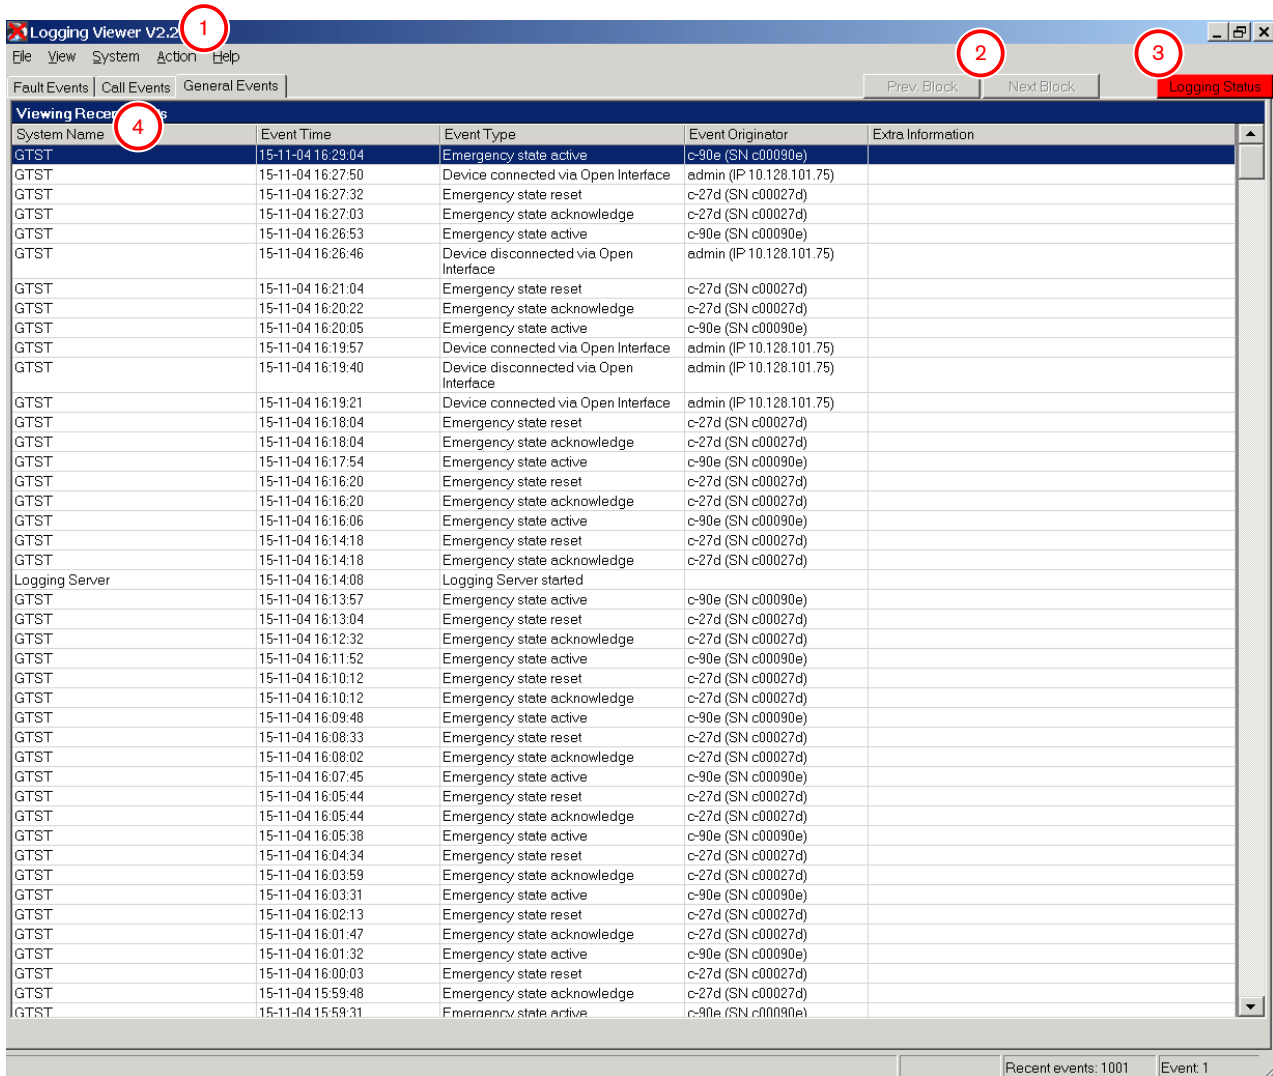

figure 50.4: Logging viewer
- 2 Click *Logging Viewer*. A screen similar to the one in figure 50.4 appears.
The *Logging Viewer* (see figure 50.4) contains the following: